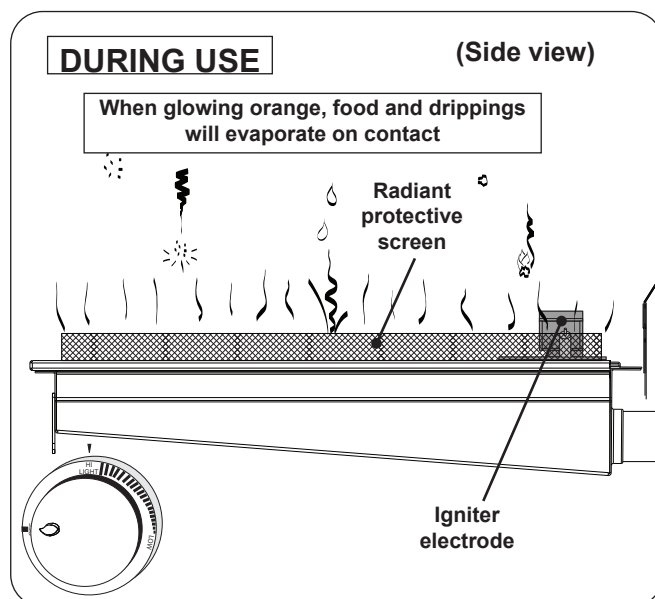

Fig. 42-3 Infrared burner - DURING USE
- **DO NOT place food on the cooking grid until the infrared burner glows orange (Fig. 42-3).** Drippings are heated and evaporate instead of sticking to and impairing burner function.